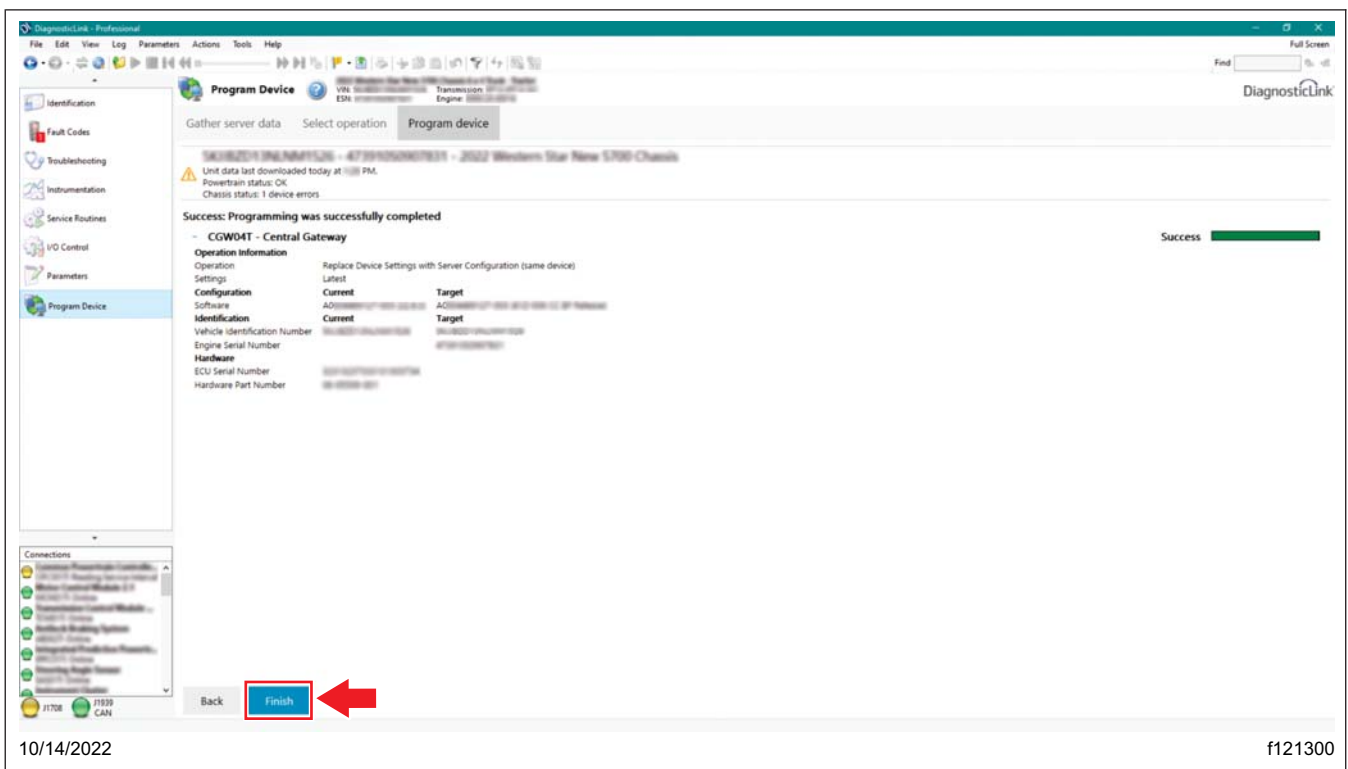

Fig. 17, Flashing Complete
11.5 Once the flashing is successful, select 'Finish.' See Fig. 17.